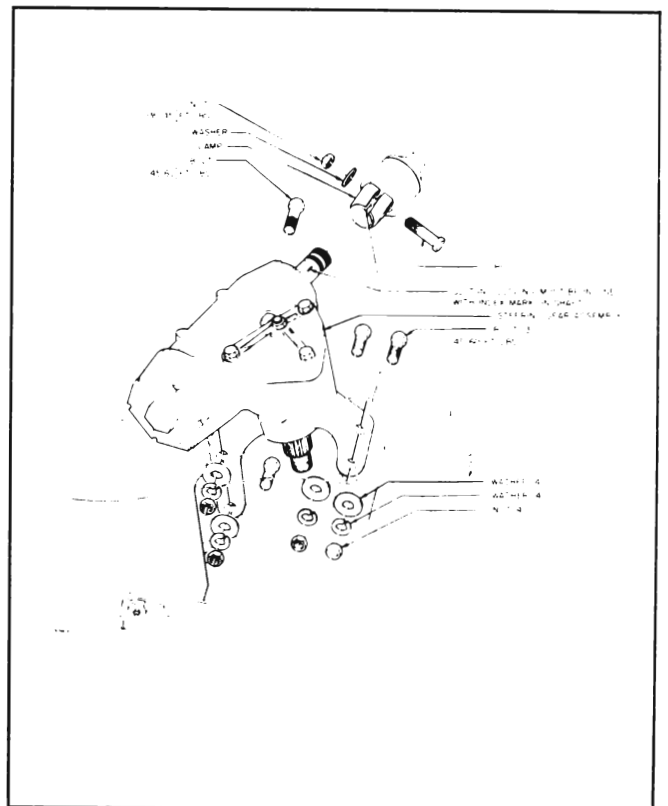

Figure 8-13—Manual Steering Gear Installation
1. Remove lower coupling clamp bolt and nut. See Figure 8-13.
1. Remove steering shaft coupling clamp bolt and slide clamp off coupling. See Figure 8-13.